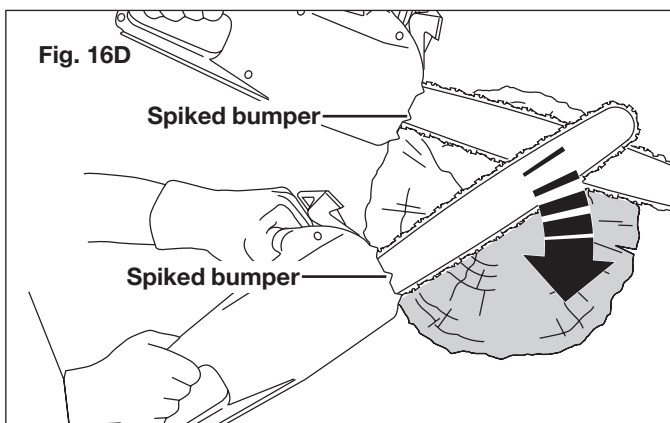

Fig. 16D
- It is easier to saw a log using the spiked bumper (Fig. 16D).